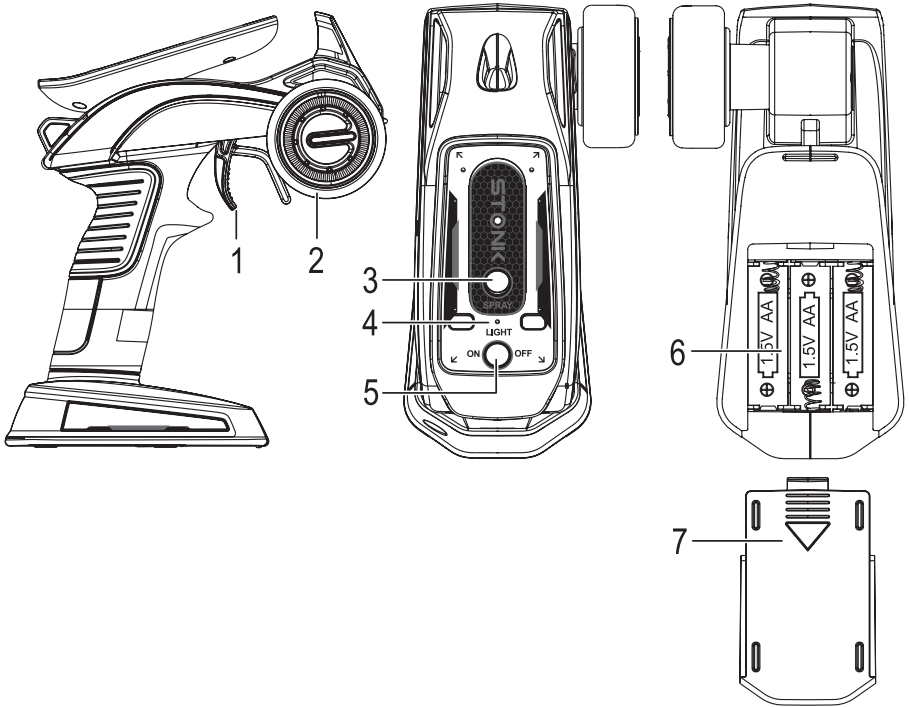

Figure 1
- Keep the on/off switch (fig. 1, no. 5) pressed for about half a second until the power LED (fig. 1, no. 4) lights up. After releasing the on/off switch, the power LED flashes.
- Then switch off the transmitter by pressing and holding the on/off switch (see fig. 1, no. 5) for about half a second. The power LED on the transmitter comes out.
The throttle lever (fig. 1, no. 1) controls forward/reverse travel. Pulling the throttle lever toward the handle causes the vehicle to drive forwards (speed depends on the lever position). Pushing the throttle lever away from the handle causes the vehicle to move backwards.
The steering wheel (fig. 1, no. 2) controls the direction of travel during forward or reverse travel. The left and right drive tracks run at different speeds, which causes the vehicle to move in the corresponding direction.
- Switch on the transmitter (insert 3 AA/Mignon batteries, if necessary, as described in section 12.1). The red LED (fig. 1, no. 4) flashes.